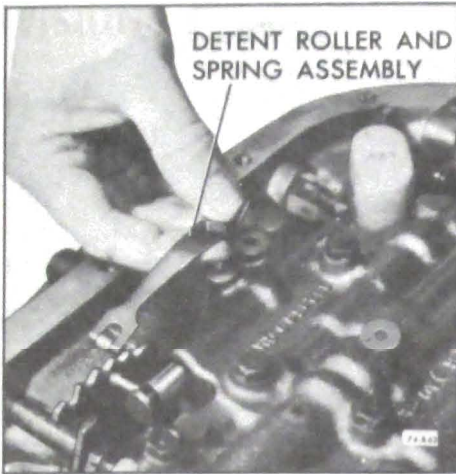

Figure 76-513
1. Remove valve body attaching bolts and detent roller and spring assembly. See Figure 76-513.